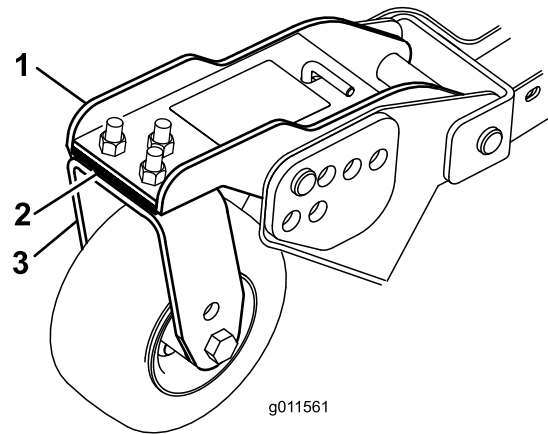

Figure 27
3. Adjust the shims (3 mm or 1/8 inch) on front caster arm(s) to match the height-of-cut decal (Figure 27).